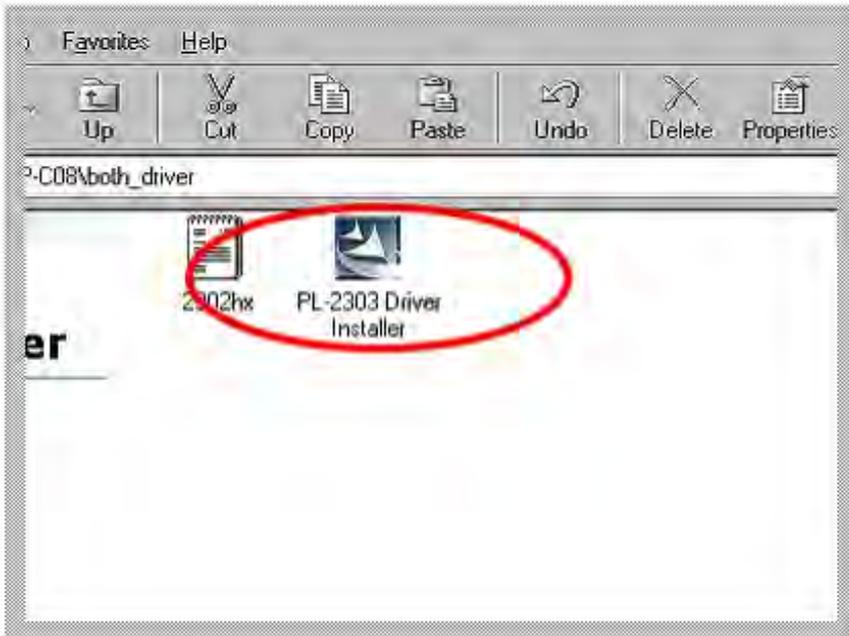

Fig.1
2. Put the driver CD in the CD-ROM then run the PL-2303 driver (Figure1, 2)